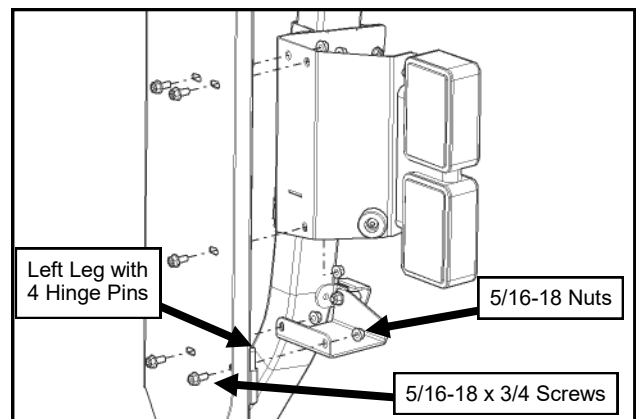

Fig. 3.1 (Loosely Secure Left Rear Leg)
3.1 With a helper, set the left rear leg in place on the rear fender against the ROPS brackets and secure with bolt heads inside. See figure 3.1. Leave loose.